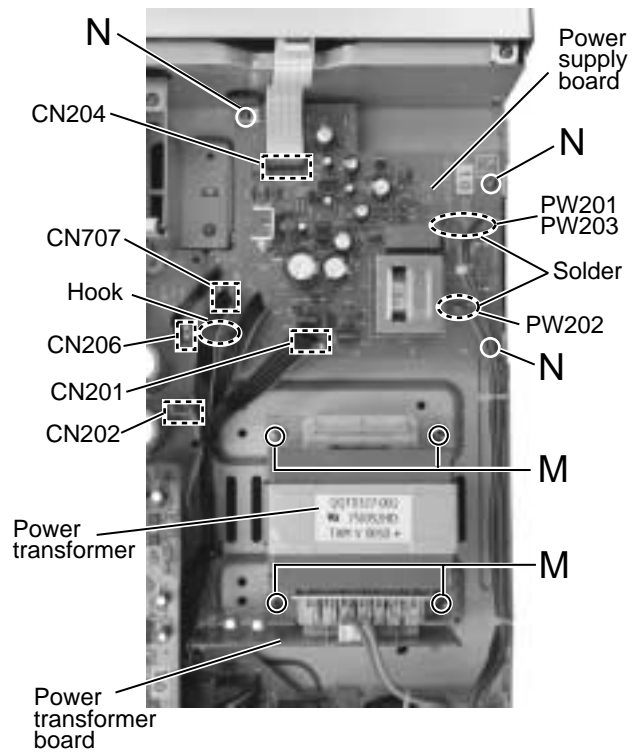

Fig.12
■ Removing the power supply board (See Fig.12)
■ Removing the power transformer (See Fig.12 and 13)